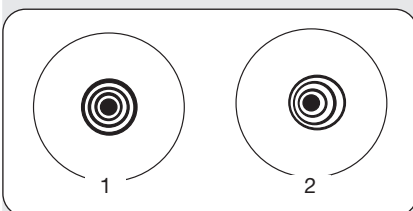

Fig. 32: Correct (1) and incorrect (2) collimation viewed during a star test.
5. Bring the star’s image slowly in and out of focus until you see several disks surrounding the star’s center. If steps 1 through 3 were done correctly, you will see concentric (centered with respect to each other) circles (1, Fig. 32).
An improperly collimated instrument will reveal oblong or elongated circles (2, Fig. 32). Adjust the 3 collimating screws on the primary mirror housing until the circles are concentric on either side of the focus.